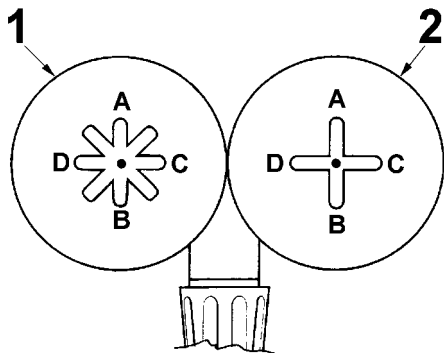

Fig.13
3. Operate the control (#1 fig.13) to position **A**: The chuck arm moves upwards.
Operate the control (#1 fig.13) to position **B**: The chuck arm moves downward.
4. Operate the control (#1 fig.13) to position **C**: The tool holder carriage moves to the right.
Operate the control (#1 fig.13) to position **D**: The tool holder carriage moves to the left.
5. Operate the control (#2 fig.13) to position **A**: The tool holder arm lifts and in the final stage of the movement, the tool rotates. Ensure that the arm is fully raised for complete rotation of the tool. If the tool is not required to rotate, lift the arm at only 3/4 of the movement.
6. Operate the control (#2 fig.13) to position **B**: The tool holder arm lowers and is properly blocked when the maximum pressure valve is activated, producing a characteristic hiss.
7. Operate the control (#2 fig.13) to position **C**: The tool holder carriage moves to the right. Turn the switch to position **D**: The tool holder carriage moves to the left.